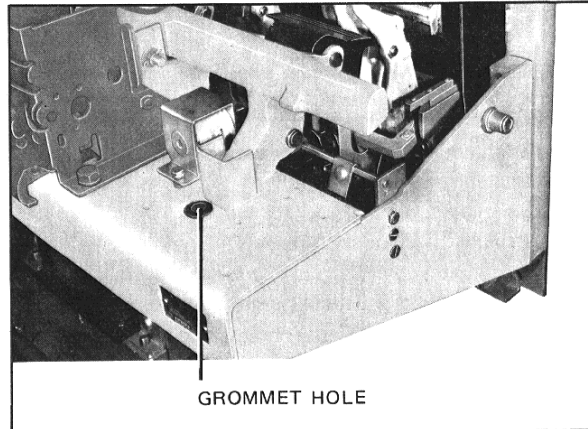

Fig. 33 Location of Grommet for Harness DB-75/100
4. Feed the amptector end of the wiring harness through the grommet from the under side of the breaker, wire should be behind the amptector, Fig. 33.